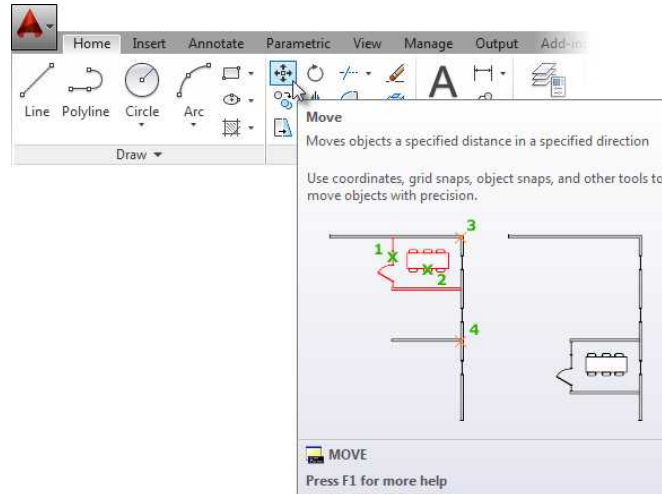

FIGURE 1.9: The cue card for the Move tool
3. After a few seconds of hovering over the Move tool button, the tooltip is replaced with a cue card, as shown in Figure 1.9. Cue cards show the step-by-step implementation of the tool.